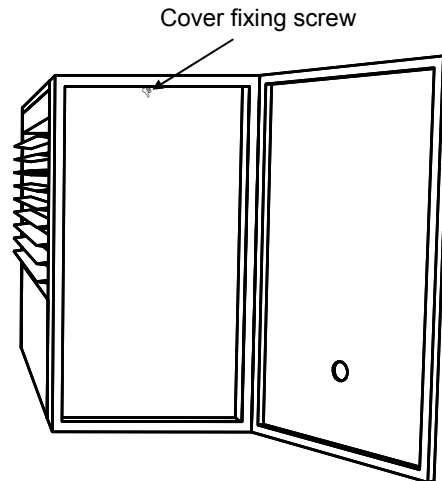

Figure 14 – Cover fixing screws
2. Unscrew the screw which holds the cover in place (see Figure 14).